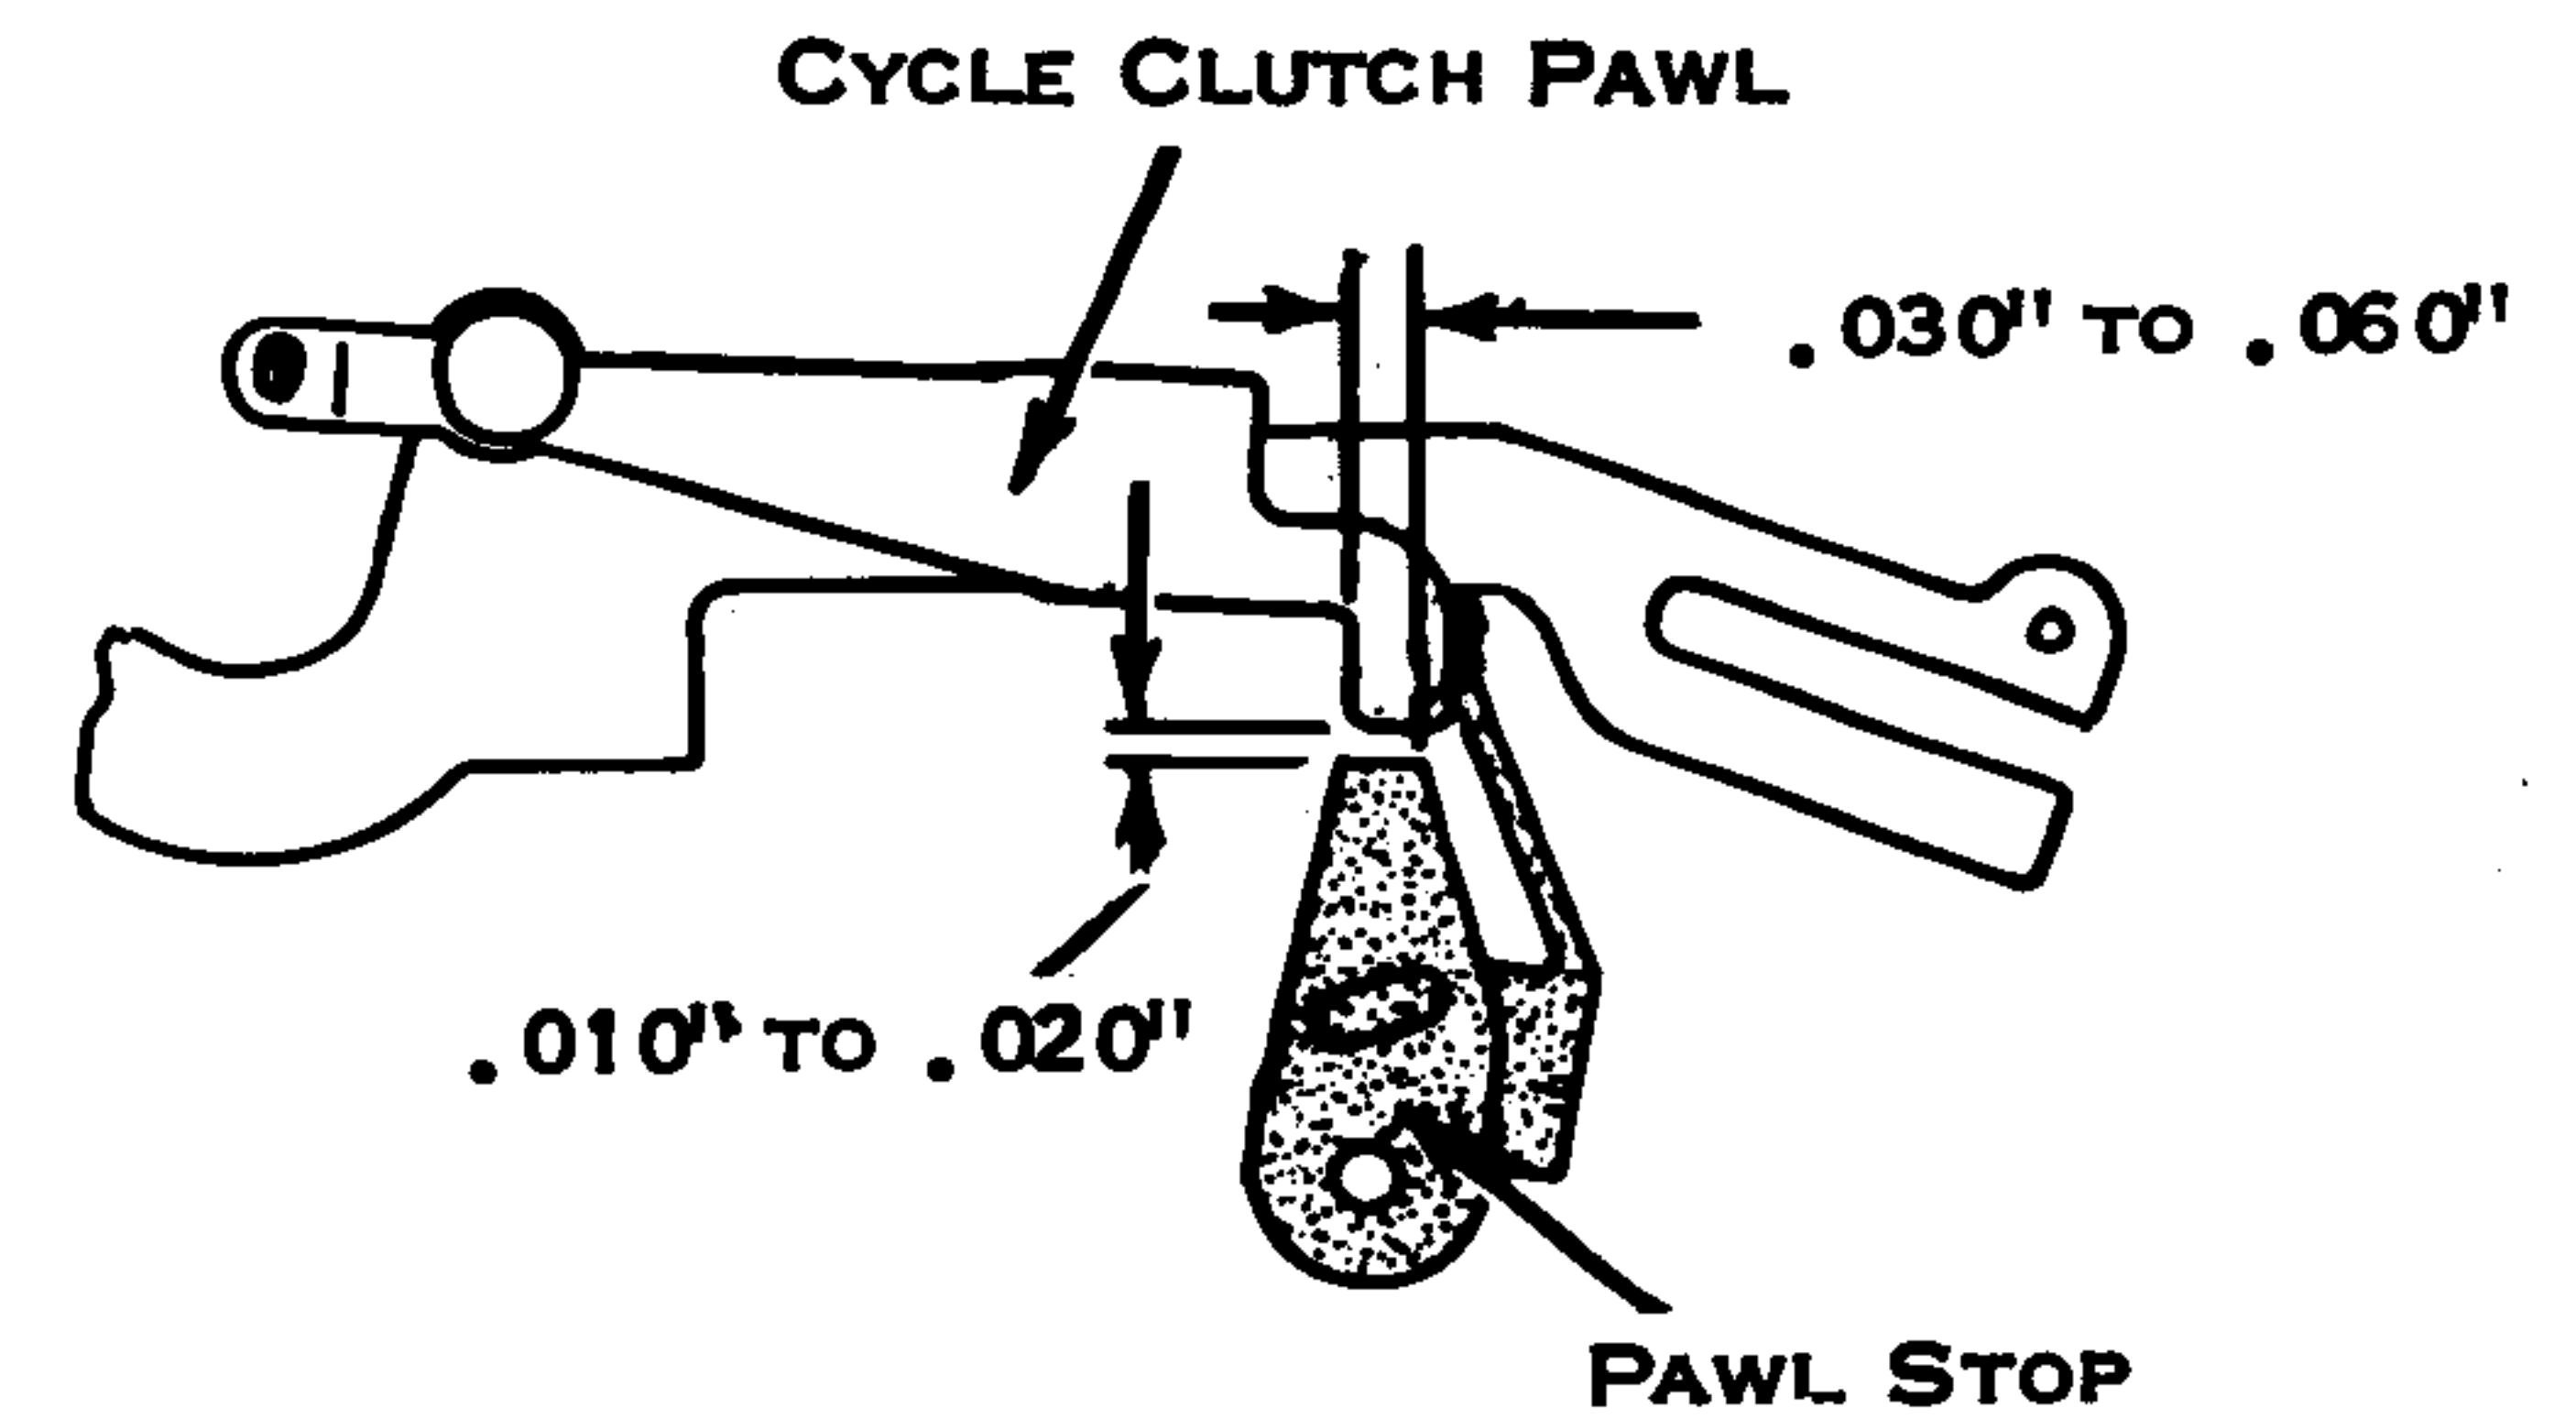

Figure 46. Cycle Clutch Pawl Stop
9. Cycle Clutch Pawl Stop (Fig. 46) - Adjust the pawl stop mounting bracket so that the cycle clutch pawl stop clears the cycle clutch pawl by .010" to .020" with keyboard locked. Best results are obtained on the high side of the adjustment (Fig. 46).
10. Pawl Stop Link (Fig. 46) -